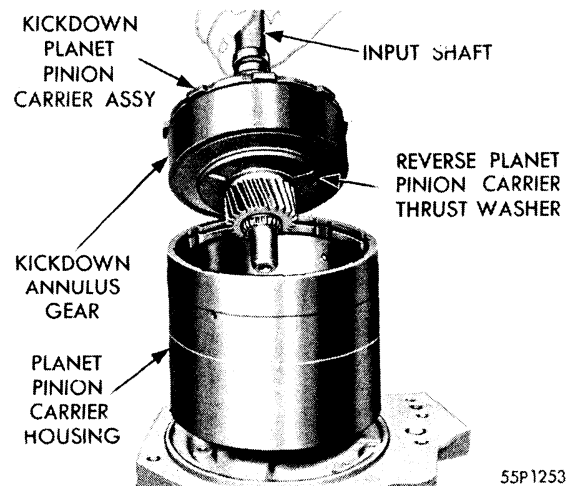
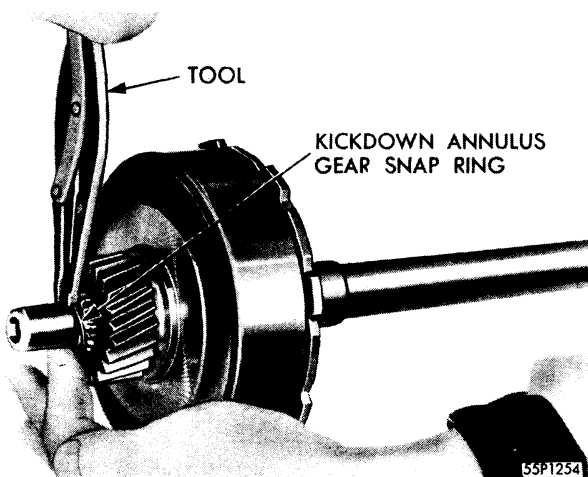
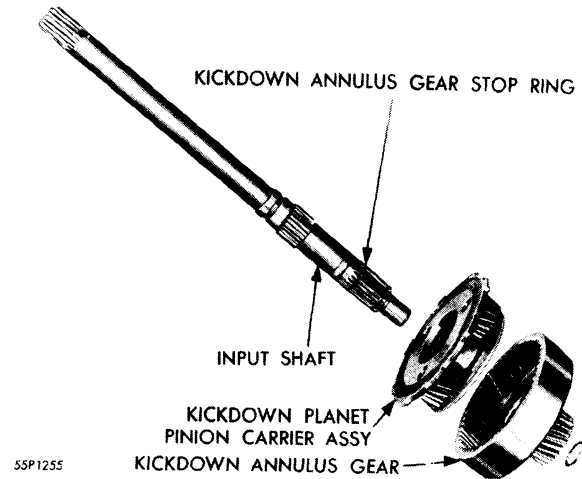

Fig. 77—Removal or Installation of Input Shaft and Carrier Assembly
Fig. 78—Removal and Installation of Kickdown Annulus Gear Snap Ring
Fig. 79—Input Shaft and Kickdown Planetary Gear Set (Disassembled View)
- (4) Remove the input shaft, kickdown planet pinion carrier assembly, and kickdown annulus gear from carrier housing. (Fig. 77.)
- (5) Remove the reverse planet pinion carrier thrust washer and inspect for cracks and wear.
- (6) Using pliers, Tool C-3301, remove the transmission kickdown annulus gear snap ring, as shown in Figure 78.
- (7) Remove the kickdown annulus gear from input shaft and inspect for worn, cracked, and broken gear teeth.
- (8) Remove kickdown planet pinion carrier assembly from input shaft. (Refer to Fig. 79.) Inspect stop ring on end of shaft which controls position of annulus gear on input shaft. Check all oil passages in both the gear and shaft for obstructions. Inspect splines and bearing surfaces on input shaft for burrs and wear.